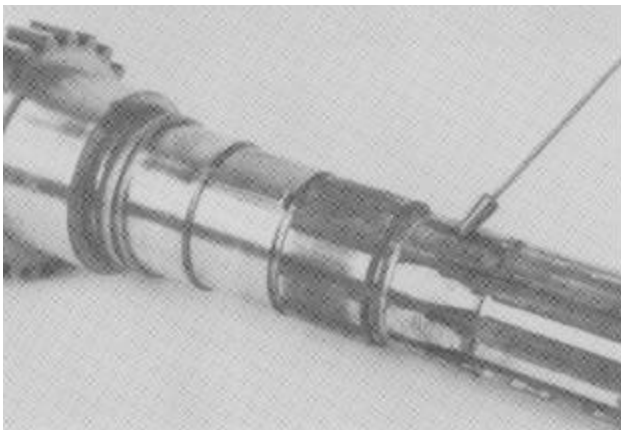

**Figure 16 Synchronizer Rings Imbedded With Metal Chips**
4. The soft brass synchronizer rings will become imbedded with metal chips from the clutching teeth (Figure 16).